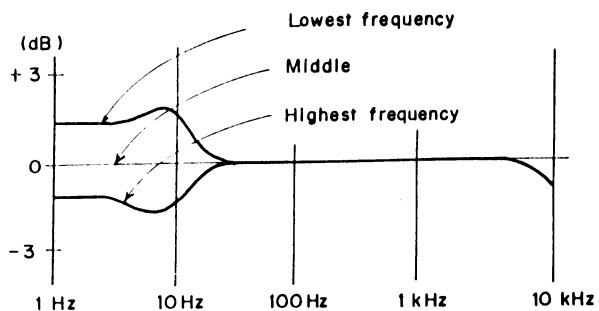

Figure 5 - Typical Modulation Frequency Characteristics
4. Change the carrier frequency to the highest channel of the band and then to the lower channel. Check the modulation flatness each time (refer to Figure 5).